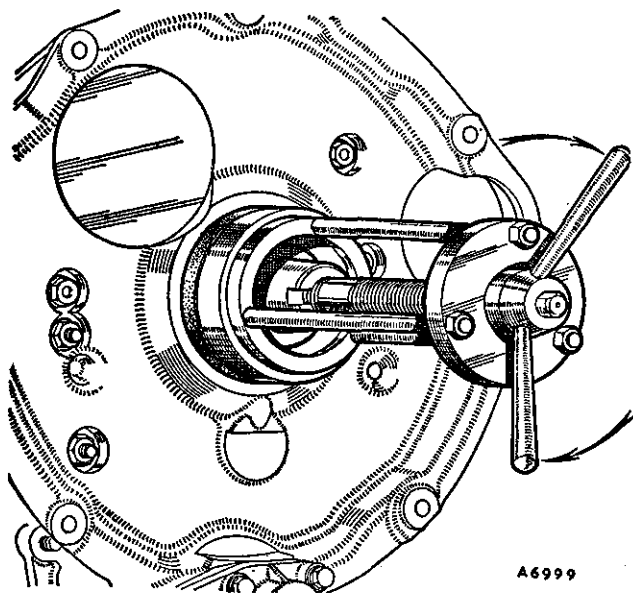

Fig. Aa.22
- (6) Screw in the short threaded end of Service tool 18G 1068 A securely into the crankshaft.
- (7) Liberally lubricate the new oil seal.
- (8) Assemble the new seal together with Service tool 18G 1068 into position (see Fig. Aa.22).
- (9) Screw in the wing nut of the tool until the seal is pressed in to the depth of the measurement (see item (5)).
- (10) The remainder is a reversal of the removing procedure.
- (11) Check and top up oil level (Section Aa.1).